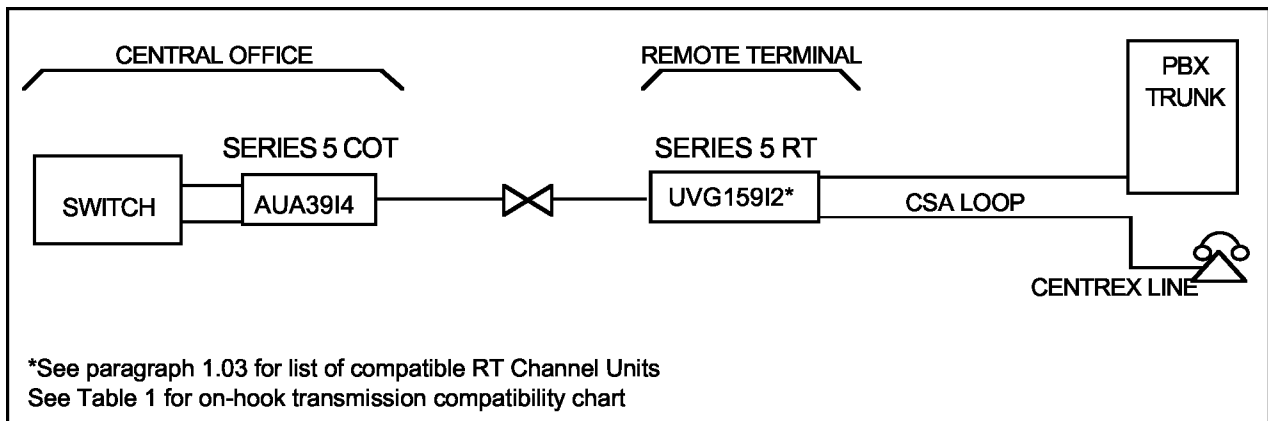

Figure 1. Typical Application For The Engenuity AUA3914
2.01 The Engenuity AUA3914 is designed for use in Central Office Terminal (COT) applications and mounts in one position of an AT&T SLC Series 5 Channel Bank Assembly. The AUA3914 is a current sink circuit that interfaces the common equipment of the channel bank to provide two, locally-switched circuits including special service applications and plain old telephone service (POTS). Refer to Figure 1 for a typical application using The Engenuity AUA3914.